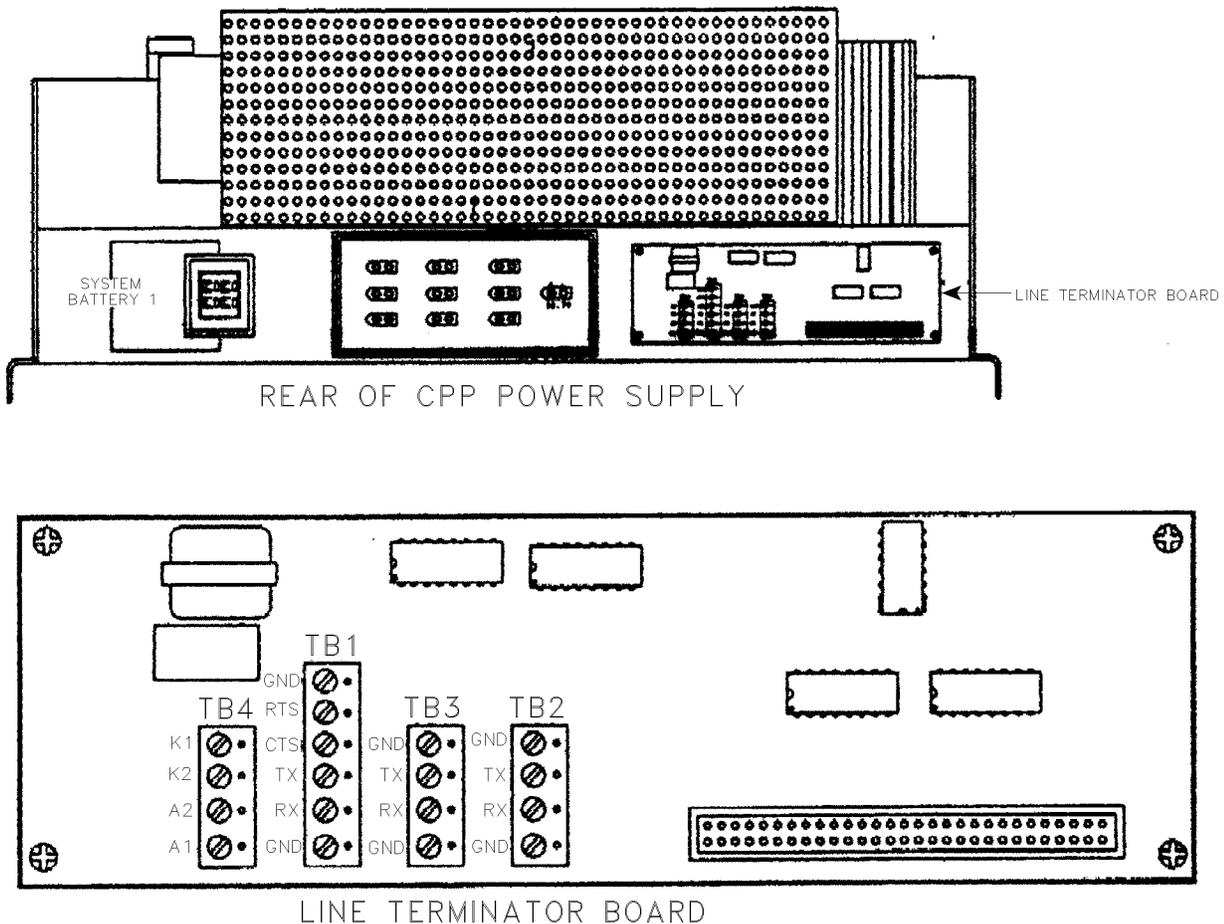

Figure 2-15 CPP POWER SUPPLY
Each dispatch position will plug directly into the J1 connector on the PIC line terminator board as shown in Figure 2-15. Console positions having more than four speakers will have two or more PICs and line terminator boards assigned. A label on the top of the line terminator board, as shown in Figure 2-15, will identify the position with the Console ID. The jumpers on the line terminator board determine whether the selected audio is sent to the left or right speaker on the console. Refer to the VR-CM50 Console Service Manual to adjust them. Refer to Section 2.6 for grounding information.
1. Connection to the PA system is made from TB4 on the CSC line terminator I/O board, located on the rear of the CPP power supply as shown in (see Figure 2-15 for terminal locations on the Line Terminator Board).